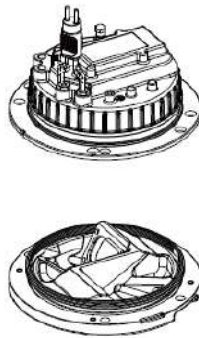

Figure 5-5
- Separate the upper cover and inner cover of the lighting fixtures (see Figure 5-5).